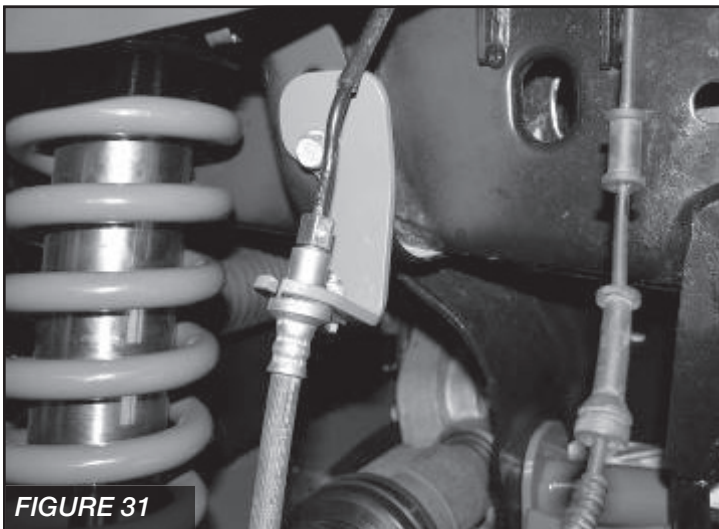

FIGURE 31
40. Locate the factory brake line in the coilover tower. Carefully cut the tower to remove the brake line. Remove the bracket from the frame saving the hardware. Carefully pull the brake line down from the frame approximately 4" (use care to not damage the hard line). Locate FT44071 Driver Brake Line Drop Mount Bracket and attach in original brake line mounting position. Locate the supplied  $\frac{1}{4}$ "x  $\frac{3}{4}$ " hardware and attach the factory brake line bracket to the new drop bracket. Torque to 10 ft-lbs. **SEE FIGURE 31**